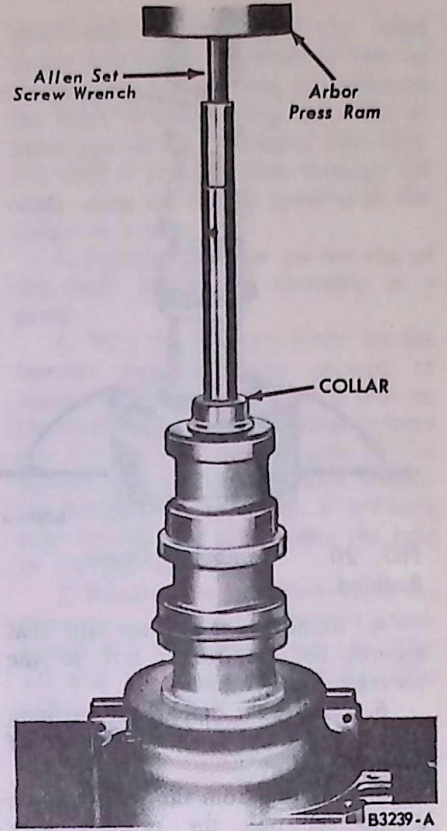

FIG. 18 Removing Shaft
14. Invert the distributor and place it on a support plate in a position that will allow the distributor shaft to clear the support plate and press the shaft out of the collar and the distributor housing (Fig. 18).
The 401, 477 and 534 SD V-8 distributor does not require the Allen Set Screw Wrench (Fig. 18) for shaft removal. Just press on the end of the shaft with the arbor press ram.